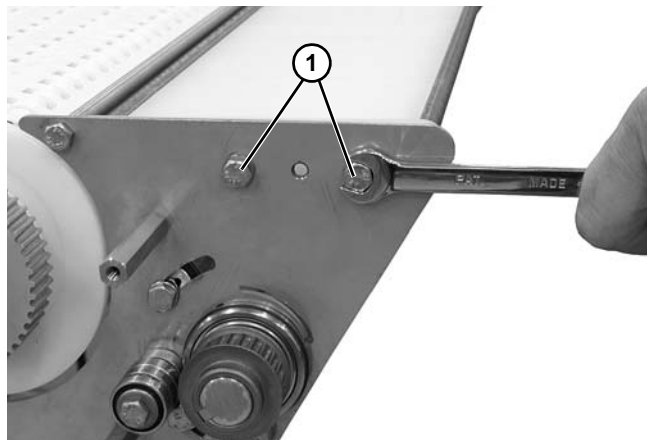

Figure 65
8. Remove two hex head screws (**Figure 65, item 1**) on both sides of the power transfer.